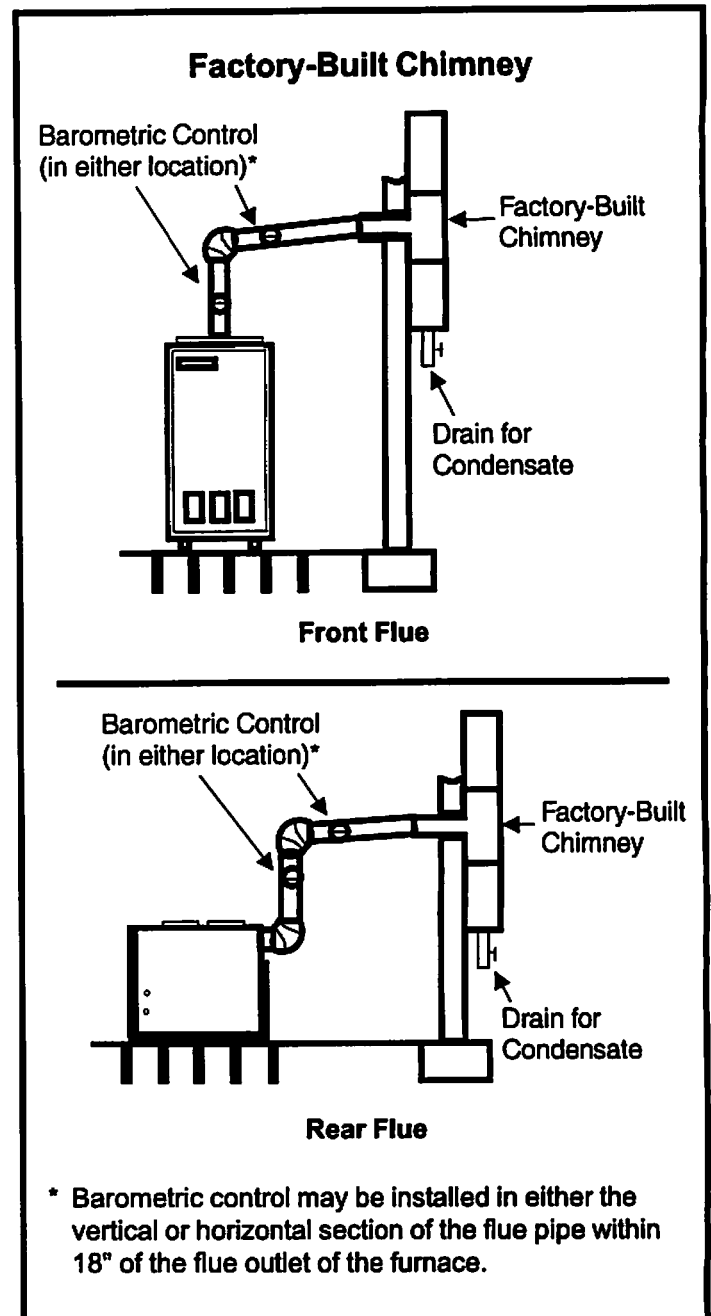
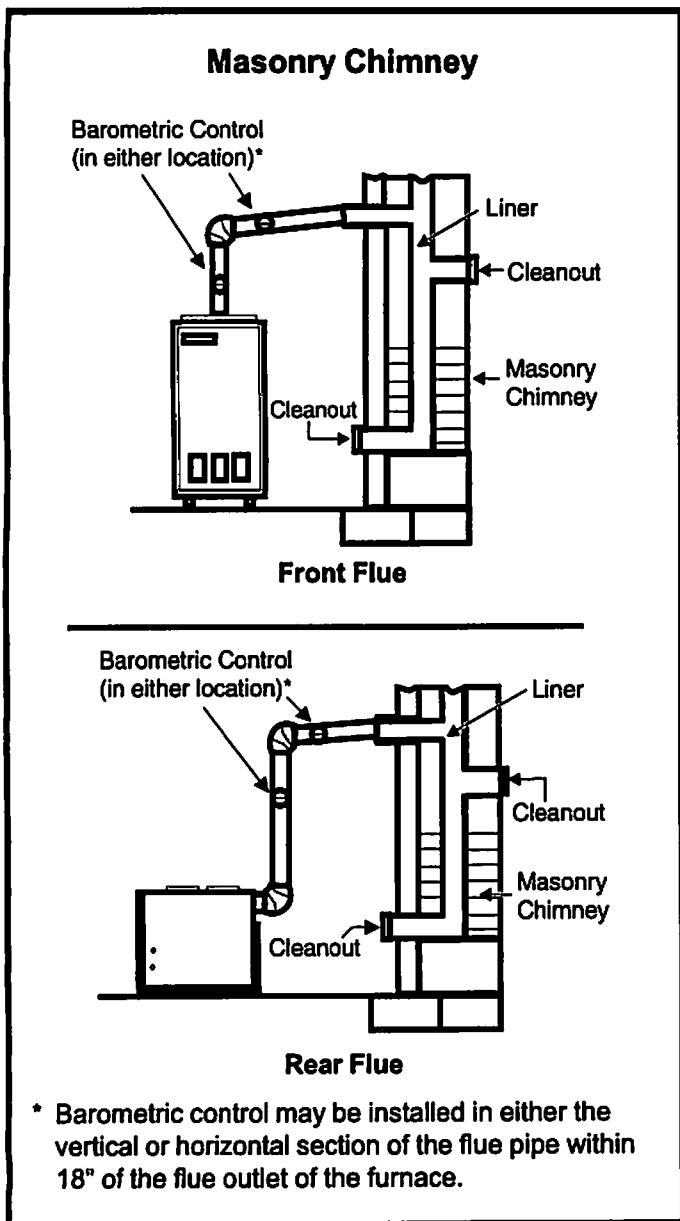

Figure 6
Figure 7
- The flue pipe should slope upward toward the chimney on a horizontal run of at least 1/4" per foot and should be supported by something other than the furnace (see Figure 6 on this page and Figure 7 on page 8).
- All vent pipe run through unconditioned areas or outside shall be constructed of factory-built chimney sections (see Figure 6).
entering the flue transition box opening. Provisions shall be made to drain off the condensate (see Figure 6).